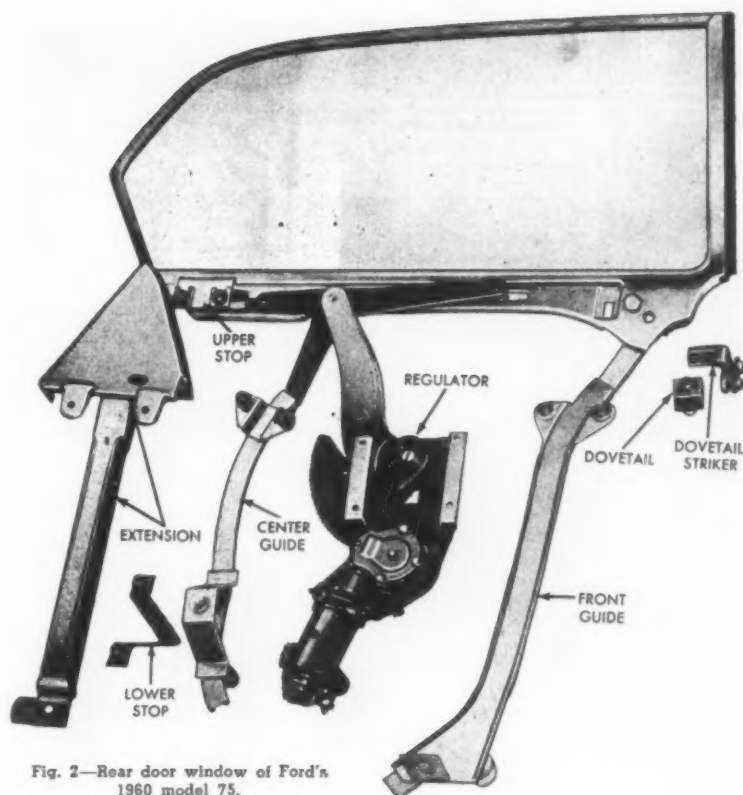

Fig. 2—Rear door window of Ford's 1960 model 75.
To limit window travel, adjust the lower stop and, in addition, the upper stop on a model 75. On this model also adjust the dovetail and dovetail striker (Fig. 2). On models 54, 58 and 71, the top run provides an upper limit to glass travel.
3.—Remove the regulator retaining screws, slide the equalizer arm out of the bracket (models 54, 58 and 71) or the guide (model 75), and remove the regulator through the door access hole (Fig. 2).